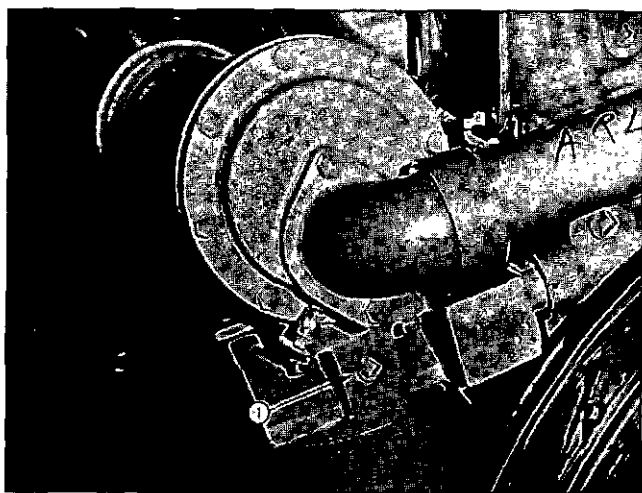

Fig. 14-2-4, V41816. Lubricating system priming point
2. Remove pipe plug from priming point. The priming point is in filter head as indicated in (1, Fig. 14-2-4).